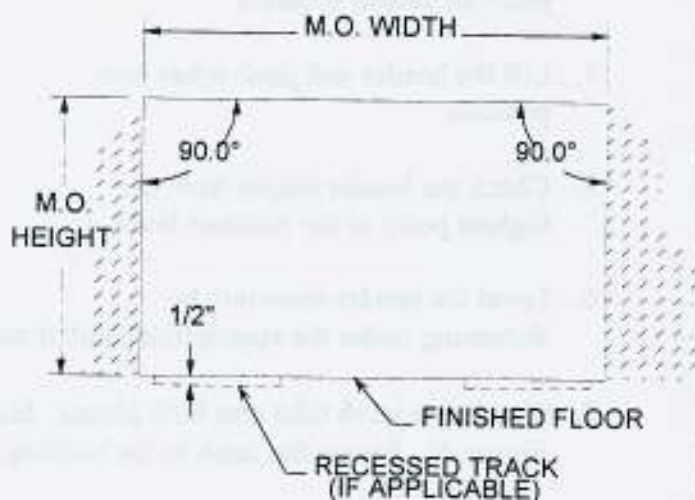

Figure 2
A. MASONRY OPENING (MO) PREPARATION
3. MO width should be package width plus 1/4 inch per side (See Figure 2).